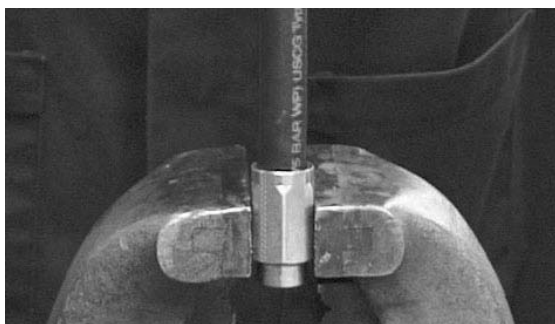

Figure 8-13. Whip Hose Socket in Vise
1. Clamp the Hose Socket in a vise with the attached Whip Hose standing vertically above the jaws. See Figure 8-13.